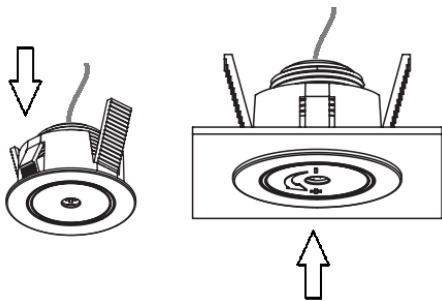

Fig. 2
- For recessed installation, drill a 28mm hole in the mounting surface, remove the mounting bracket, insert the sensor into the recessed holder from the rear until it clicks, then insert the holder into the ceiling (see Fig. 2)